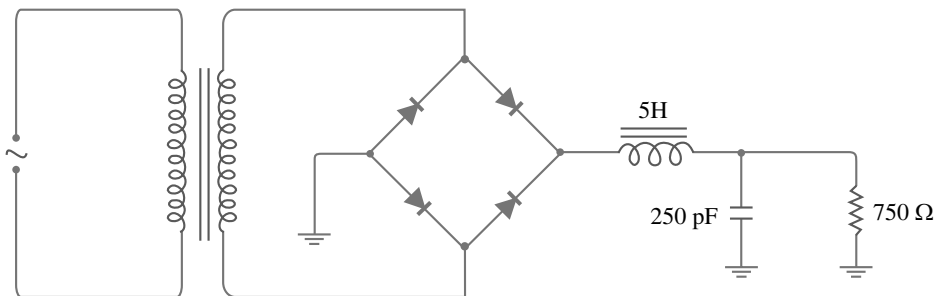

Fig. 4.54
**Example 4.39.** The choke of Fig. 4.54 has a d.c. resistance of  $25 \Omega$ . What is the d.c. voltage if the full-wave signal into the choke has a peak value of  $25.7 \text{ V}$ ?